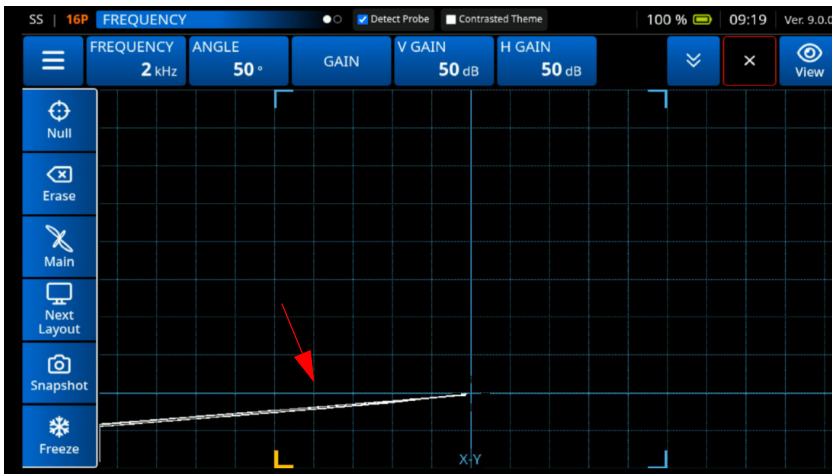

Figure 3-57 Confirm the Lift Off Setting
6. Confirm the lift off setting (See Figure 3-57 on page 86).